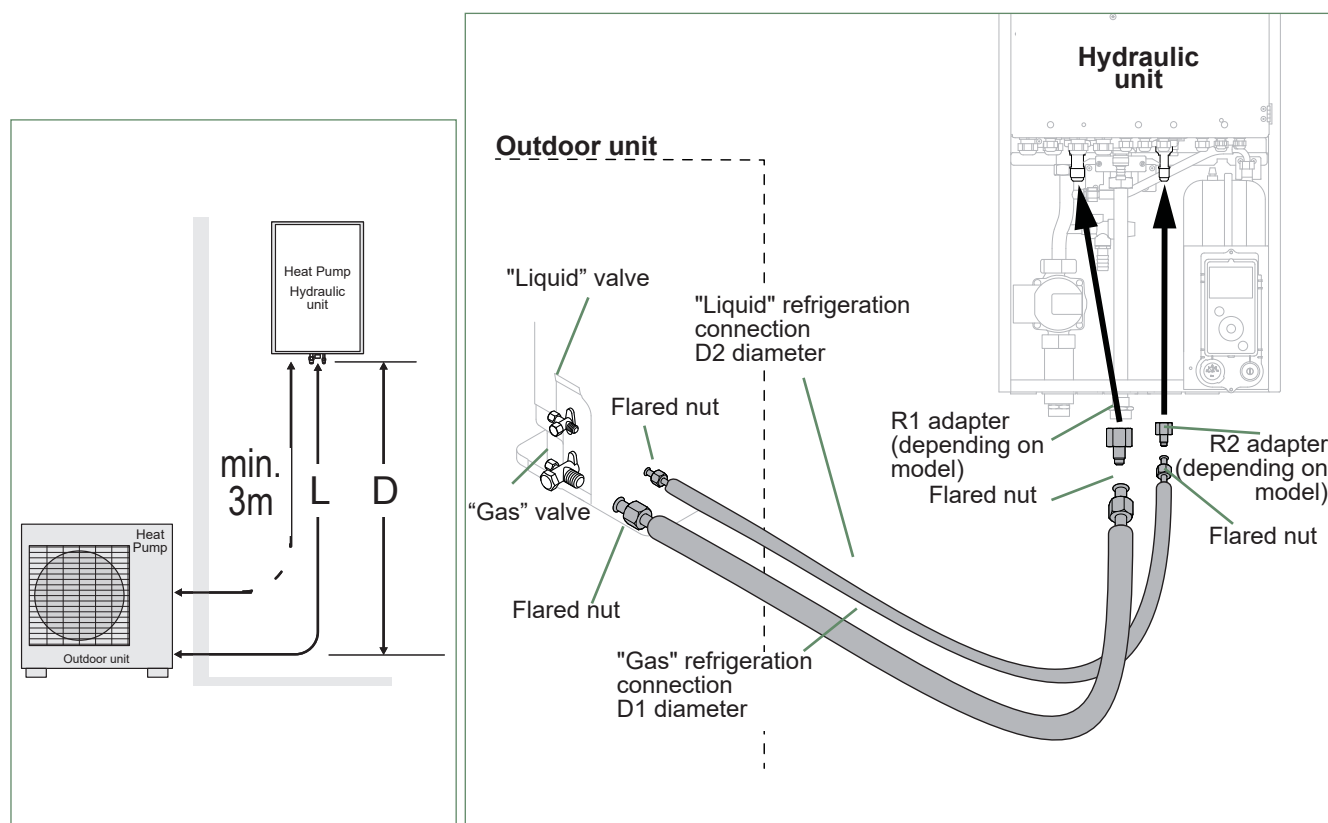

fig. 32 - Refrigeration connections (authorised diameters and lengths)
- Where necessary, connect an adapter (reducer) 1/4"- 3/8" or 1/2"- 5/8" (see *fig. 32*).